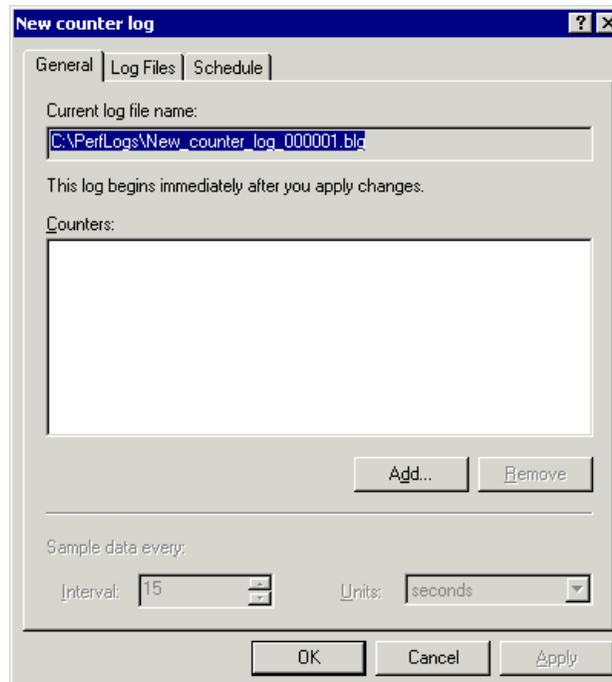

Figure 126. New counter log
3. The new counter log window appears in Figure 126.
5. The Sample data every fields found at the bottom of the General tab in Figure 126 are used to specify when the data will be gathered.